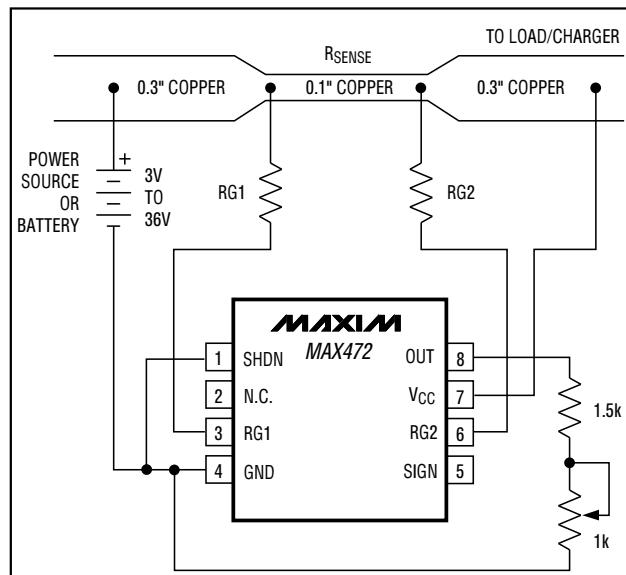

Figure 6. MAX472 Connections Showing Use of PC Board Trace
- e) **Cost:** If the cost of R_{SENSE} becomes an issue, you may want to use an alternative solution, as shown in Figure 6. This solution uses the PC board traces to create a sense resistor. Because of the inaccuracies of the copper "resistor," you will need to adjust the full-scale current value with a potentiometer. Also, the resistance temperature coefficient of copper is fairly high (approximately 0.4%/°C), so systems that experience a wide temperature variance should take this into account.
In Figure 6, assume the load current to be measured is 10A and that you have determined a 0.3 inch wide, 2 ounce copper to be appropriate. The resistivity of 0.1 inch wide, 2 ounce copper is $30\text{m}\Omega/\text{ft}$ (see Note 4). For 10A you may want $R_{SENSE} = 5\text{m}\Omega$ for a 50mV drop at full scale. This resistor will require about 2 inches of 0.1 inch wide copper trace.